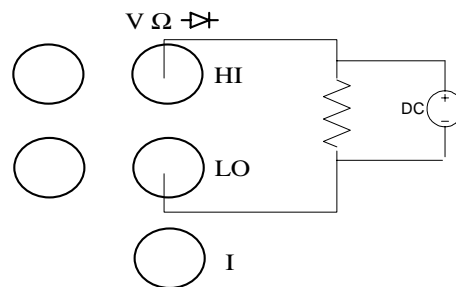

Figure 10a
3. connect the DMM in parallel as shown in Fig. 10a